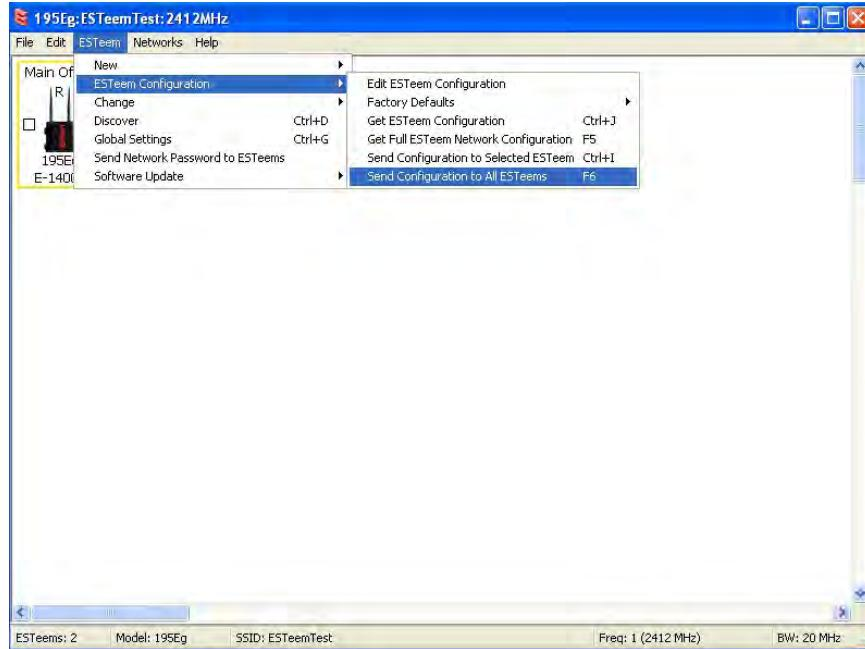

Figure 14: Send Configuration to ESTEEMS
5. Verify both ESTEEM modems are connected to the same switch as the computer running the ENC Utility and send the configuration to both modems at the same time by selecting ESTEEM>ESTEEM Configuration>Send Configuration to All ESTEEMS (Figure 14).